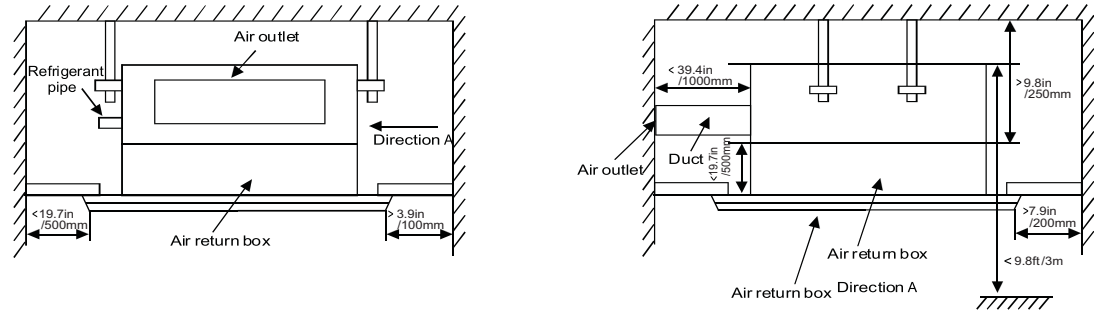

Fig. 3 – Ducted Clearance
Allow sufficient space for airflow and servicing unit. See Fig. 3 through 5 for minimum required distances between the unit and the walls or ceilings.
- A location which provides appropriate clearances (see Fig. 3).